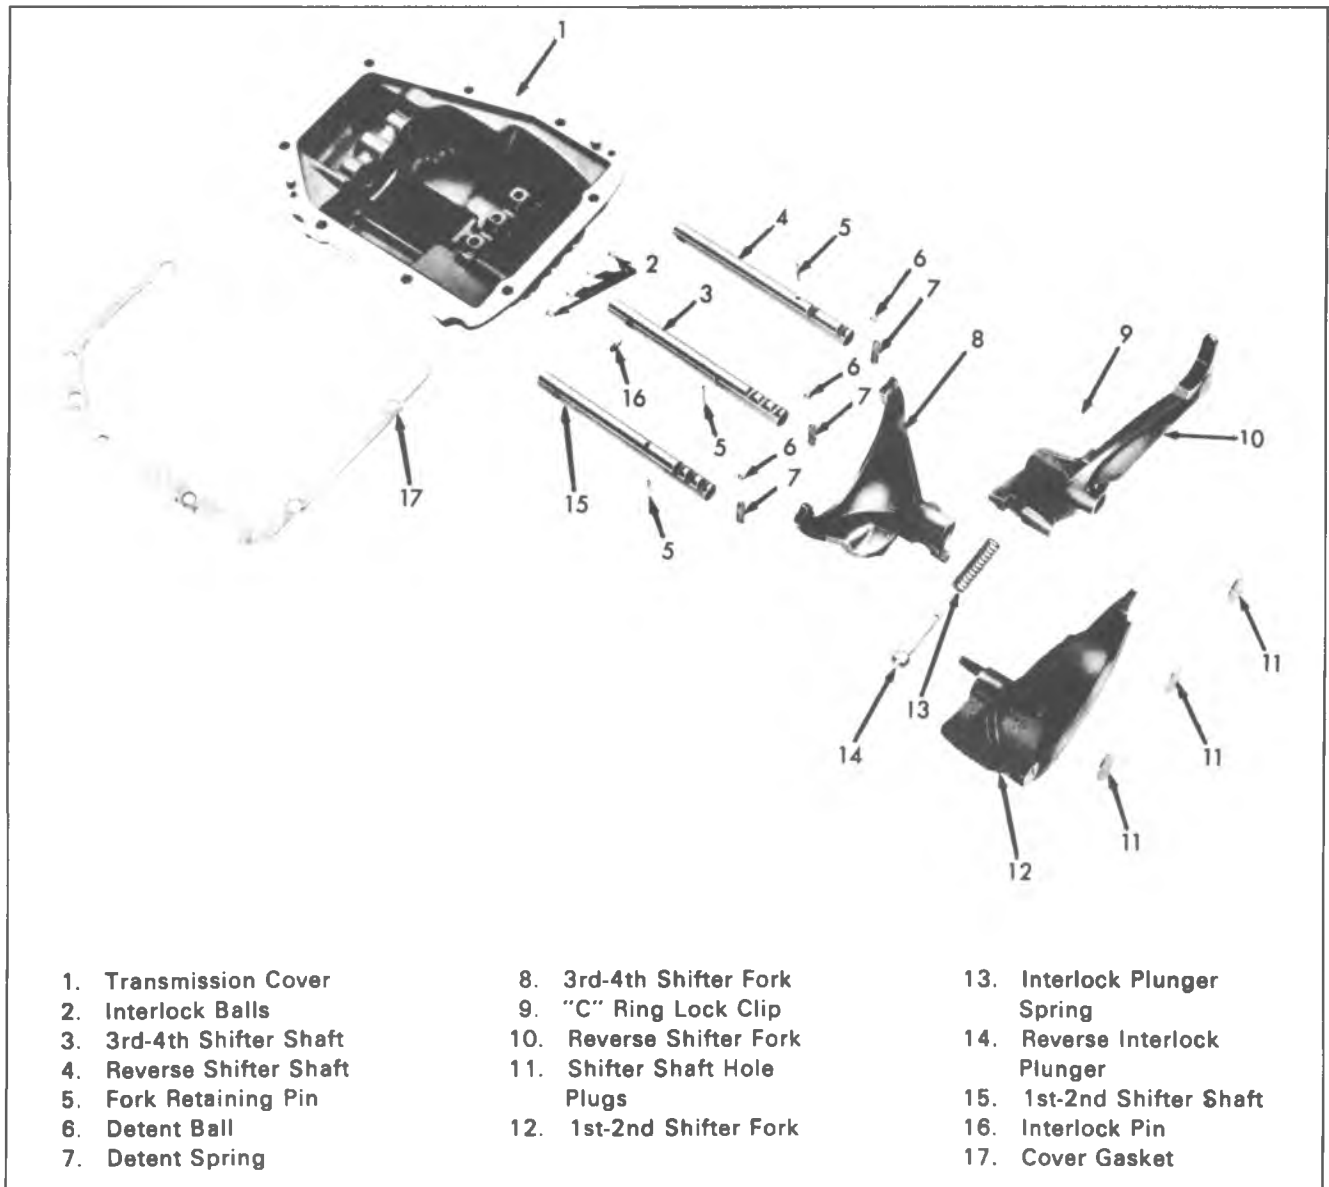

Fig. 7B-6L--Cover Assembly Exploded View
1. Press bearing and new oil slinger onto drive gear shaft using Tool J-22872 (Fig. 7B-11L). Slinger should be located flush with bearing shoulder on drive gear. See Figure 7B-8L for direction of slinger installation.